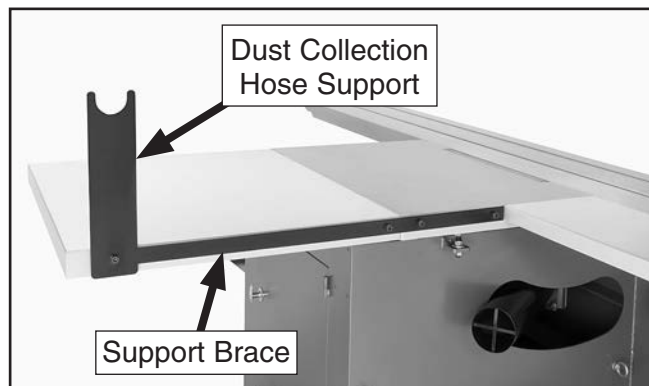

Figure 35. Dust collection hose support installation.
19. Attach the support brace and dust collection hose support to the table with five M10-1.5 x 30 cap screws and 10mm lock washers, as shown in **Figure 35**.